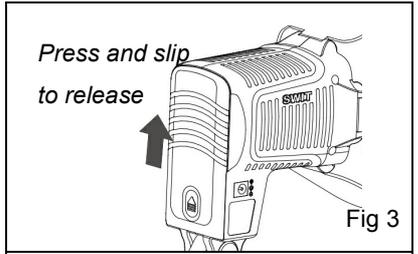

Fig 3
- ① Make sure there's no power lead connected into DC-IN socket and the light is switched off (turn the switch to "O").
- ② Press and slip off the protection cover. See Fig 3
- ① Press and slip off the protection cover. See Fig 3